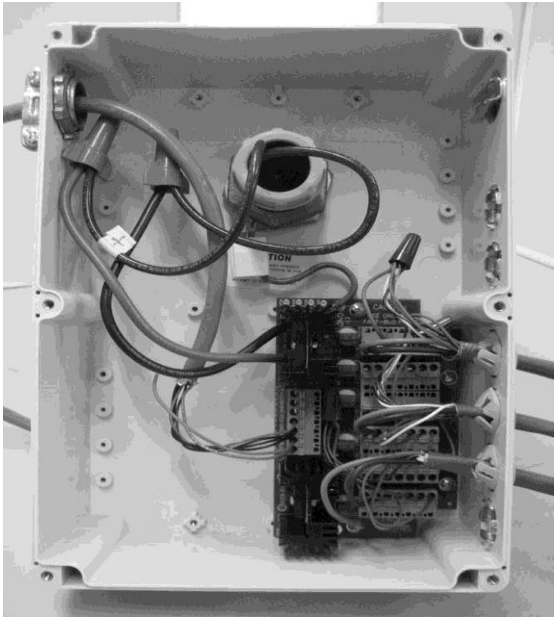

Figure 12: Fuse Box Wiring
- NOTE:** To install wire into the terminal block, take a small flat head screwdriver and push down on the tab adjacent to the connection point. See Figure 12. Insert the end of each wire into proper terminal hole until it bottoms out and release the tab. Ensure that all loose wire strands are captured by the terminal block. Give the wire a slight 'tug' to be certain it is seated properly.
2. Strip cable jacket as needed and run wires into the Fuse Box as seen in Figure 12. Choose the nearest terminal block that is adjacent to an installed fuse.